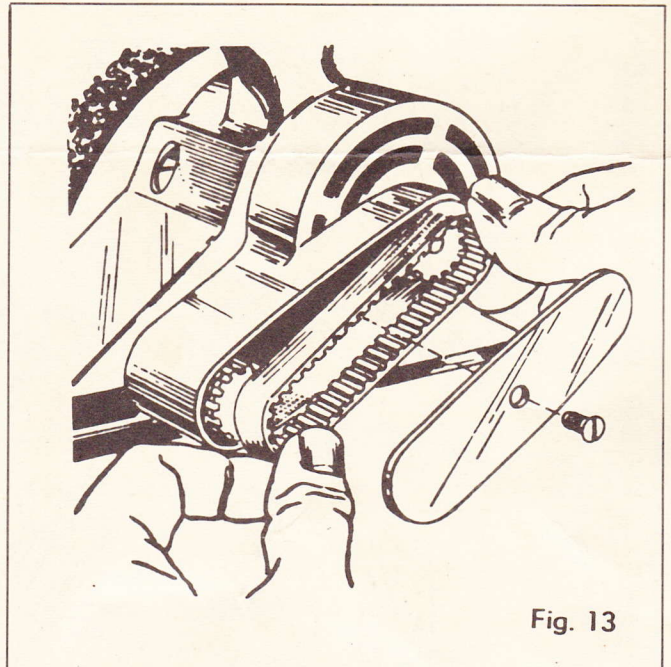

Fig. 13
2. Remove the screw and belt guard as shown in Fig. 13.